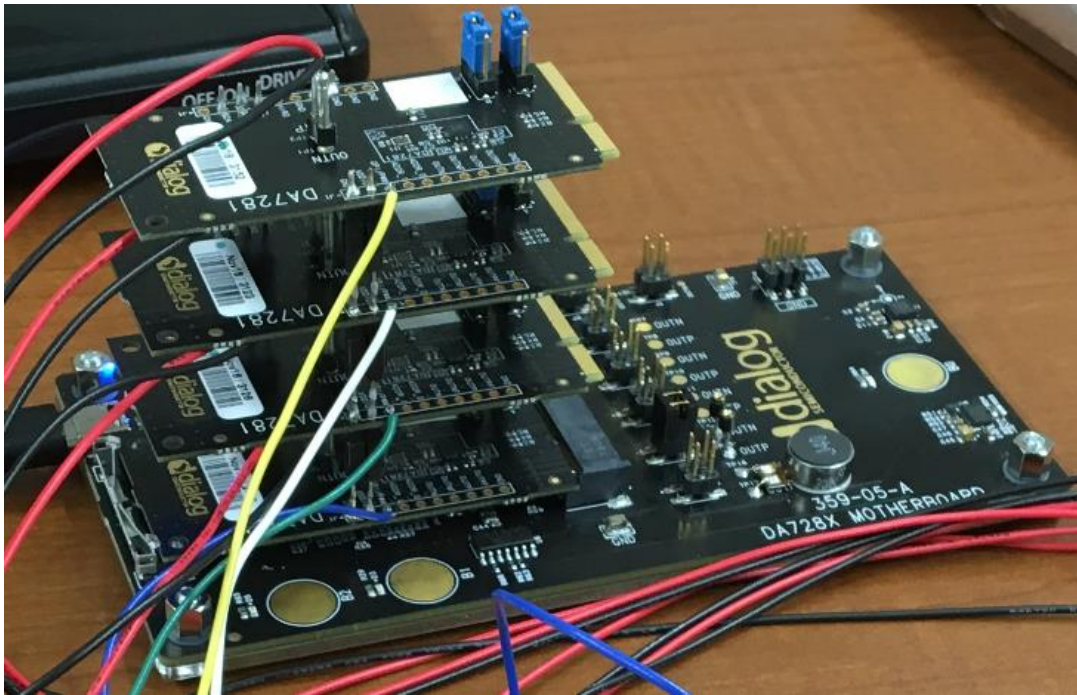

Figure 75. DA728x motherboard with four DA7281 daughterboards stacked
- It is possible to stack up to four DA7281 daughterboards on one DA728x motherboard by using long tail stackable header pins such as <https://www.digikey.co.uk/products/en?keywords=SAM1206-02-ND> (see Figure 75).